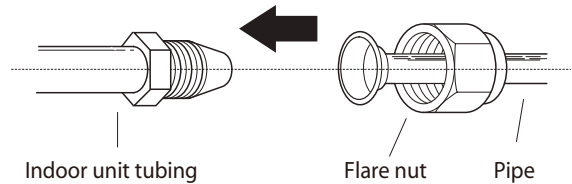

Fig. 6.7
1. Align the center of the two pipes that you will connect. See Fig. 6.7 .